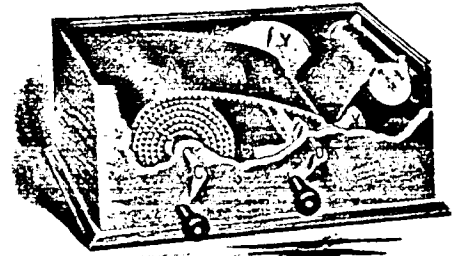

Fig. 1
5. Insert film cartridge in spool carrier and close up the movable arm tight against end of spool. Have the duplex paper ("B" in Fig. 1) lead from the top.